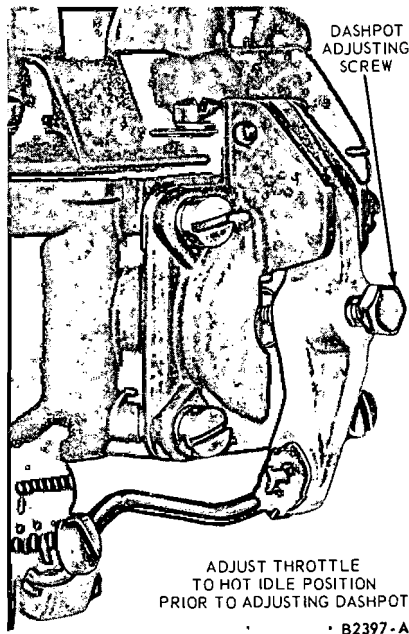

FIG. 33—Anti-Stall Dashpot Adjustment—Autolite Model 1100 1-V
1. Adjust the throttle position to the hot idle setting. Turn the dashpot adjusting screw outward until it is clear of the dashpot plunger assembly (Fig. 33).